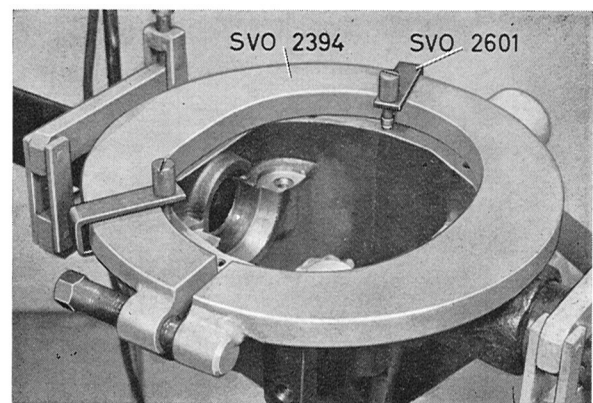

Fig. 4-155. Expanding drive pinion carrier
6. Install tool 2394 in the holes in the drive pinion carrier as shown in Fig. 4-155.